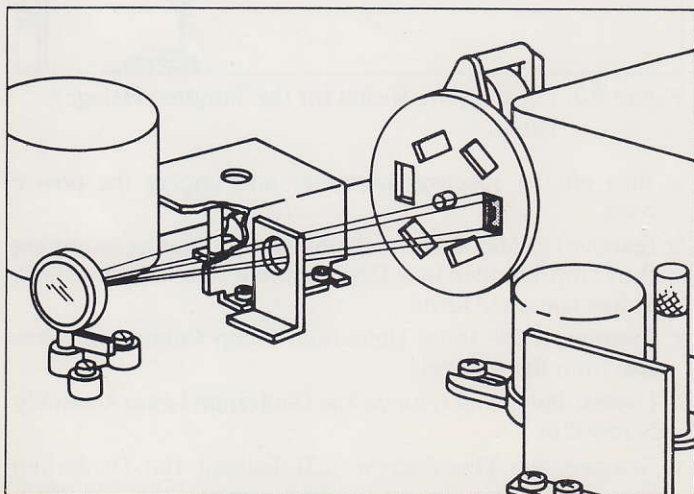

Figure 6-3a. Correct
- d. Examine the illuminated filter on the filter wheel to determine the position of the light. Light should be centered on the filter and on the slit, as shown in Figure 6-3a.